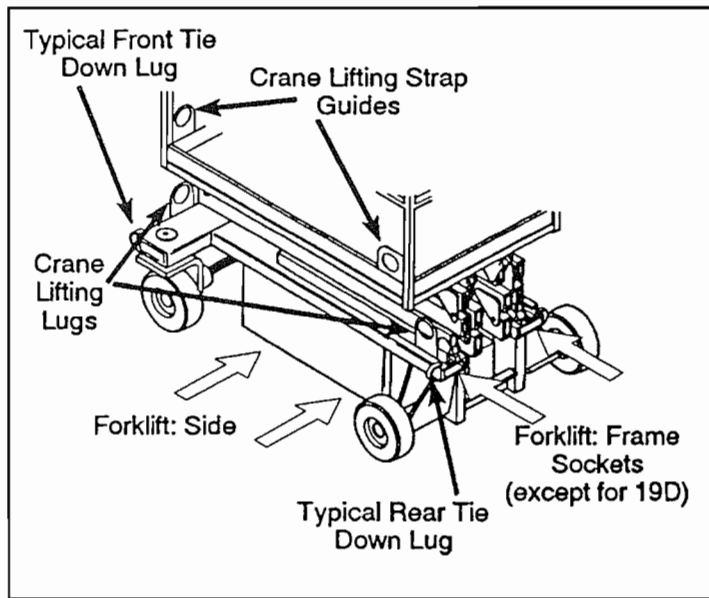

Figure 2-2: Forklift Sockets & Tie Down Brackets
Forklift from rear of Chassis using frame sockets (except XL19D) or from the side by lifting under the Chassis Module (Figure 2-2).
1. Install straps through guides on Platform (Figure 2-2).
2. Secure straps to Chassis Lifting Lugs **only** (Figure 2-2).
2. Secure the work platform to the transport vehicle with chains or straps of adequate load capacity attached to the chassis tie down lugs (Figure 2-2).